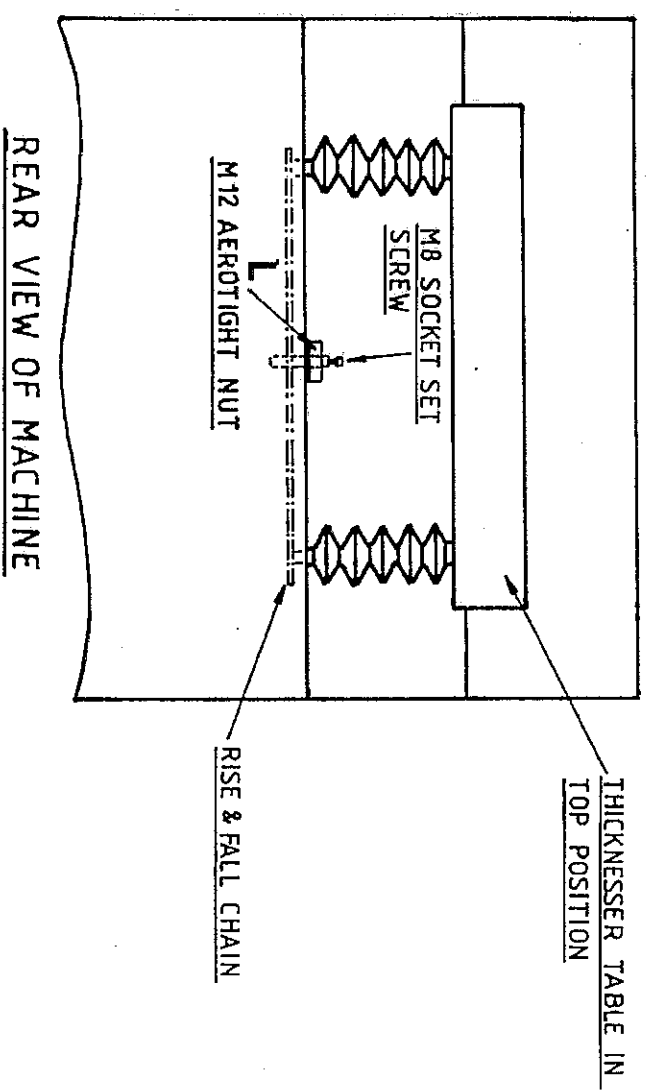

FIG. 34
- c) Loosen M12 aerotight nut "L" FIG.34 and turn M8 grubscREW until correct tension is achieved.